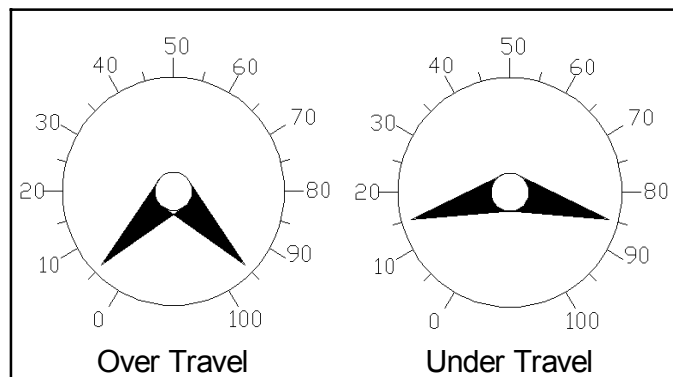

Figure 7.—Over and under travel of gate position indicator.
- (h) Move gates to 10 percent open as measured at the scale on the servomotors and check to see if the gate position needle indicates 10 percent. If the gate position needle does not indicate 10 percent, move the eccentric adjustment in the restoring shaft bell crank to position it correctly (photograph 3). Move it toward the restoring shaft if there is over travel and away from the restoring shaft if there is under travel (figure 7). Move the gates to 90 percent, as measured at the servomotor scale, and check the gate position indicator needle. It may be necessary to elongate the slot in the restoring shaft bell crank to obtain sufficient travel.
- (i) Move the gates to 10 and 90 percent, as measured at the scale on the servomotors and check to see if the gate position hand indicates 10 and 90 percent. If the gate position hand doesn't match the servomotor position, move the connecting rod end on the slotted gate rockshaft lever to position it correctly (photograph 8). If the gate position hand under travels, that is, it indicates 15 and 85 percent, move the connecting rod end towards the rockshaft. If the gate position hand over travels, move the connecting rod end away from the rockshaft (figure 7).